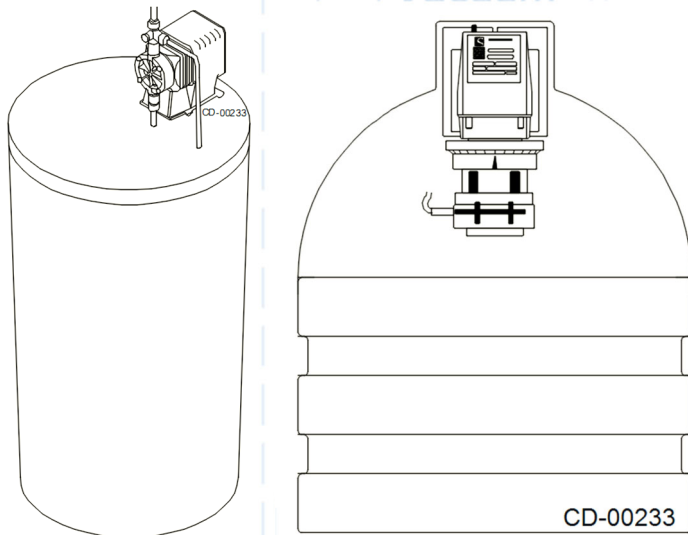

Fig 1.3.6
-For a manganese greensand filter system, one basic chemical pump and tank are included as standard. Typical units shown below (fig 1.3.6).